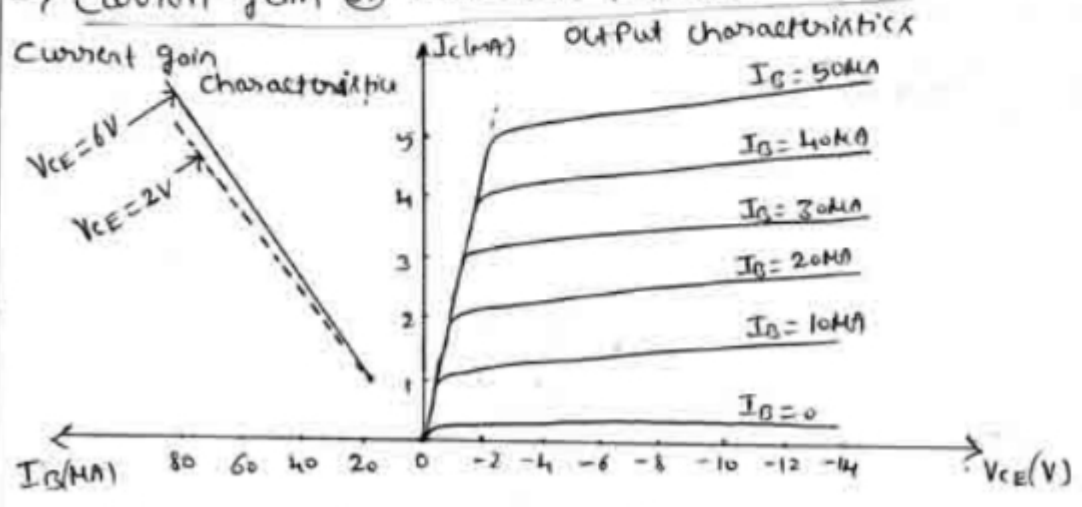

Fig 36: Current gain characteristics
→ Current gain ⑥ Forward transfer characteristics (Fig 36)
① Keeping V_{CE} constant at particular value, I_C is measured for various levels of I_B .
② A graph of I_C vs I_B is plotted
• Current gain characteristics can be obtained experimentally (Fig 33) or derived from the output characteristics (Fig 36)
② Common Collector Configuration: